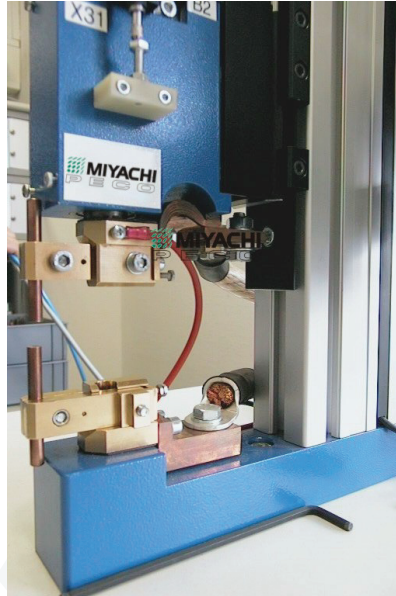

Fig. 3: (+) Connection (example)
- Connect the red cable (+) terminal to the welding head (+) pole (Fig. 3) at the position provided for this purpose.